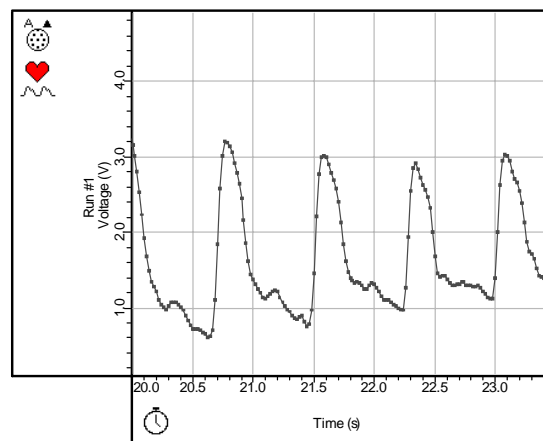

Figure 4
2. Change the x-axis scale to span a period of 3 or 4 seconds by clicking in the x-axis area and changing the values in the dialog boxes. (The plotted voltage will look similar to that in Figure 4.)